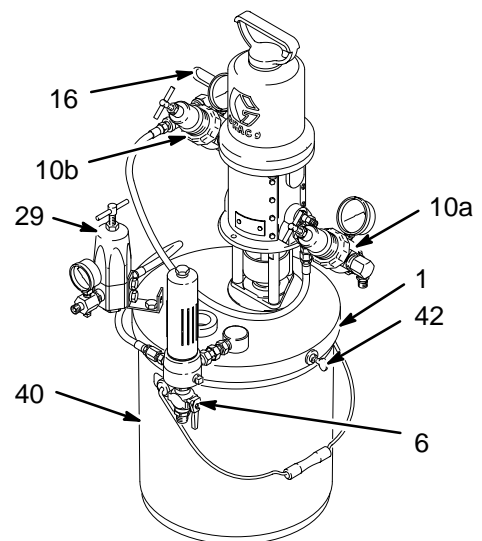

Fig. 4
See Fig. 4. Be sure the air regulators (10a and 10b) and bleed-type master air valve (16) are closed. **Do not install the spray tip yet!**